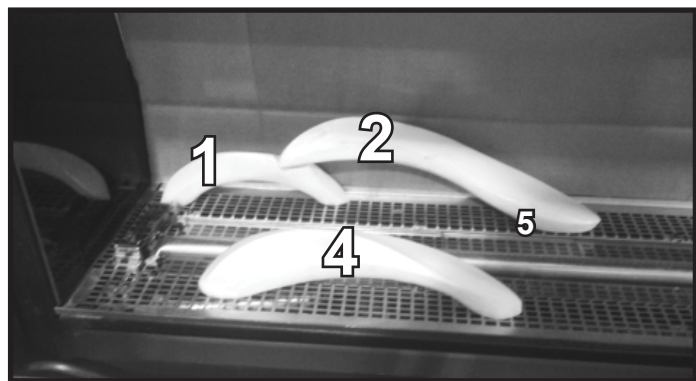

Figure 5. (SRV2310-752)
6. **(SRV2310-752):** Install Log #2 with the larger end of the log positioned on shoulder screw #5. The small end of the log rests on the notch of Log #1. See Figure 5.